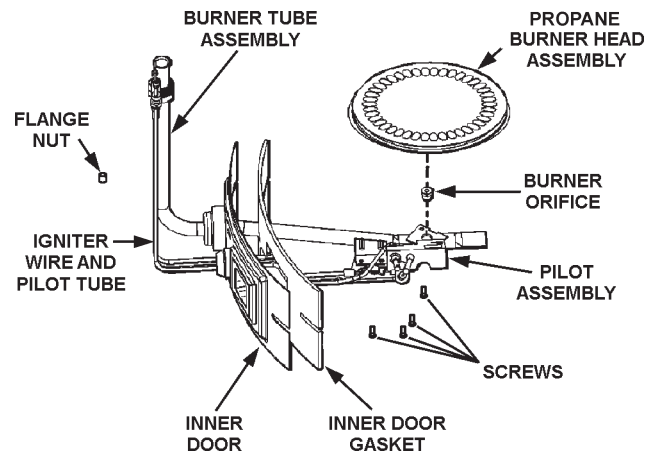

FIGURE 17.
16. Remove the two Phillips-head screws holding the natural burner head to the burner tube assembly, see Figure 17.
17. Using 3/8" boxed-end wrench remove the natural gas burner orifice "O" from the burner tube. Install burner orifice marked "LP" and tighten securely, see Figure 17.
18. Locate and install the propane burner head to the burner tube using the two Phillips-head screws, see Figure 17.